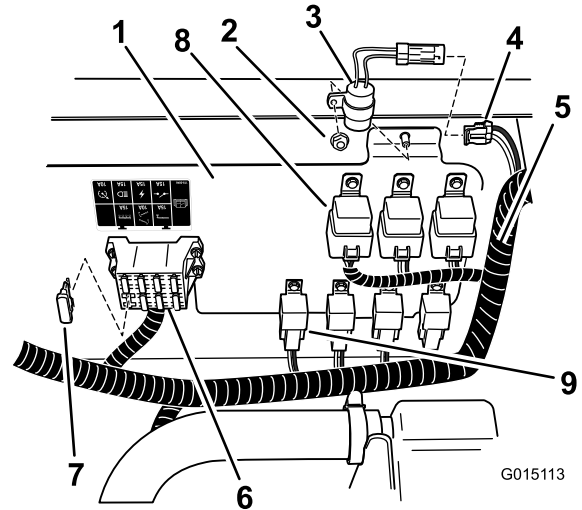

Figure 26
2. Locate the delay timer in loose parts and install it to the location shown in (Figure 26) with lock nut.
3. Locate the connector on the main harness labeled delay timer. Connect the timer to the main harness at this location (Figure 26).
4. Install a 40 Amp fuse to the open slot in the fuse block as shown in (Figure 26). If a lower amperage fuse already exists in the slot remove it and replace it with the 40 Amp fuse.